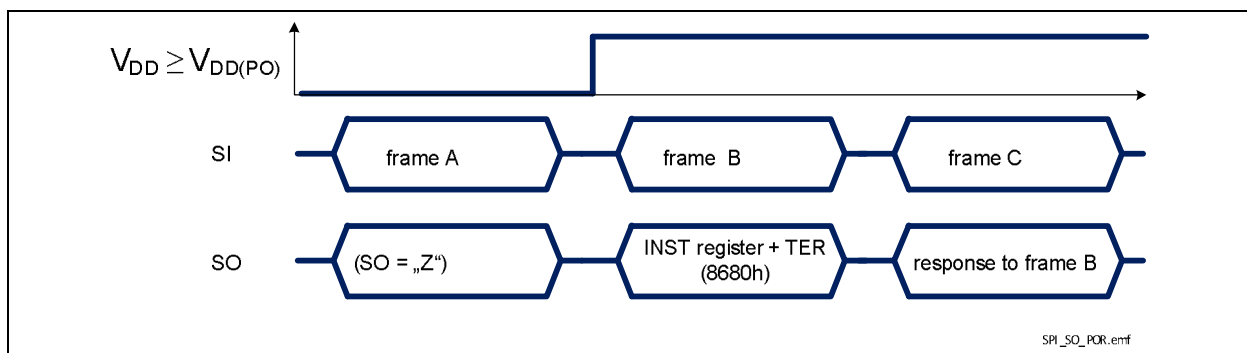

Figure 31 TLE75004-EPD response after coming out of Power-On reset at V_{DD}
- when TLE75004-EPD logic supply comes out of Power-On reset condition or after a Software Reset, as shown in **Figure 31**